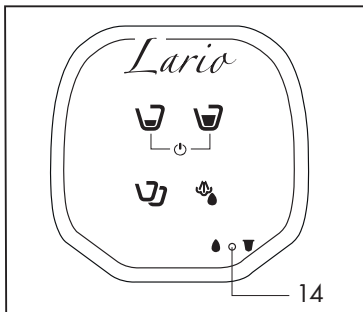

Fig. 4
The light (14) (VAP and 4D Model) on the control panel indicates that there is no water in the tank (Fig.4); fill the tank (8) as instructed above.